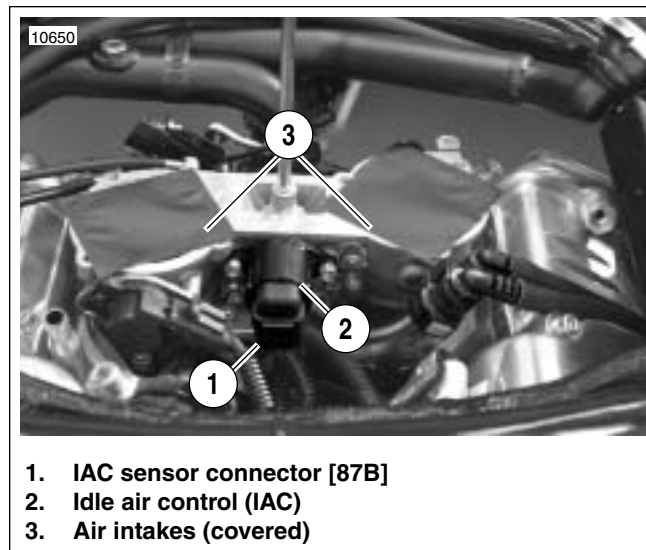

Figure 4-34. IAC Sensor (typical)
2. See Figure 4-34. Cover air intakes (3) to prevent debris from entering cylinders.